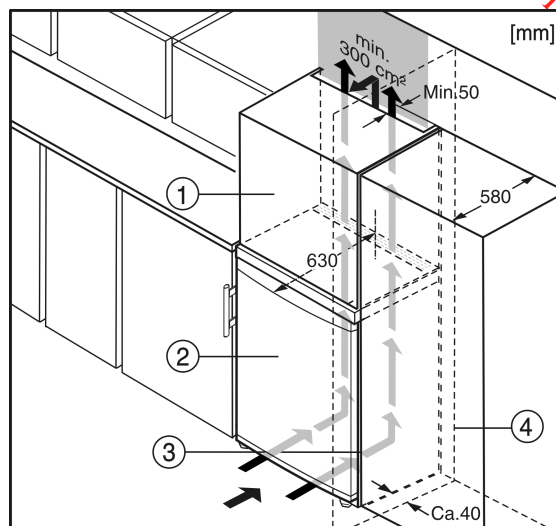

Fig. 6
- (1) Stack cabinet
- (2) Appliance
- (3) Kitchen cabinet
- (4) Wall
The appliance can be inserted into a row of kitchen units. To match the appliance Fig. 6 (2) to the height of the row of units, a suitable stack cabinet Fig. 6 (1) can be fitted above the appliance.*
When inserting the appliance into a row of kitchen units (max. depth 580 mm), the appliance can be installed directly next to the kitchen unit Fig. 6 (3). The appliance door projects relative to the front of the kitchen unit by 34 mm at the side and by 50 mm in the middle of the appliance. It can be opened and closed perfectly as a result.*
If the appliance is installed with the hinges next to a wall Fig. 6 (4), the distance between appliance and wall has to be at least 40 mm. This corresponds to the projection of the handle when the door is open.*